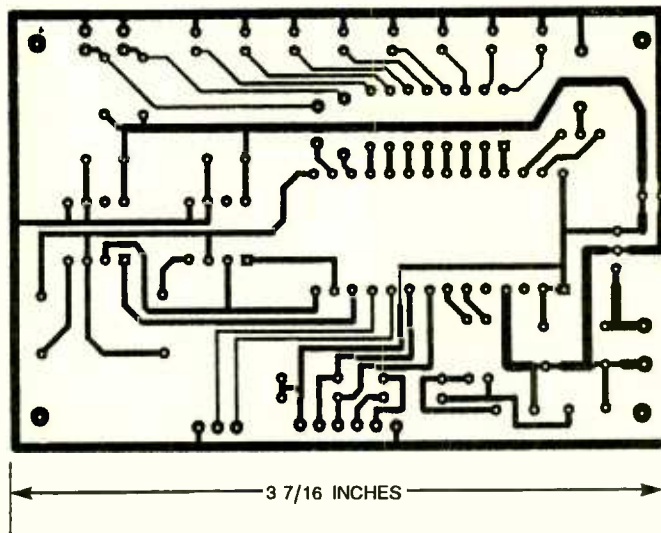

Fig. 2. The Motion Memory was assembled on a small printed-circuit board (shown here full-scale) measuring about  $3\frac{7}{16}$  by  $2\frac{5}{16}$  inches.
Fig. 2. A low-pass filter (like that shown in A) is designed to pass signals that are below a certain (cut-off) frequency, while rejecting those that are above that value. The gain-versus-frequency (B) and phase-versus-frequency (C) response curves show that.